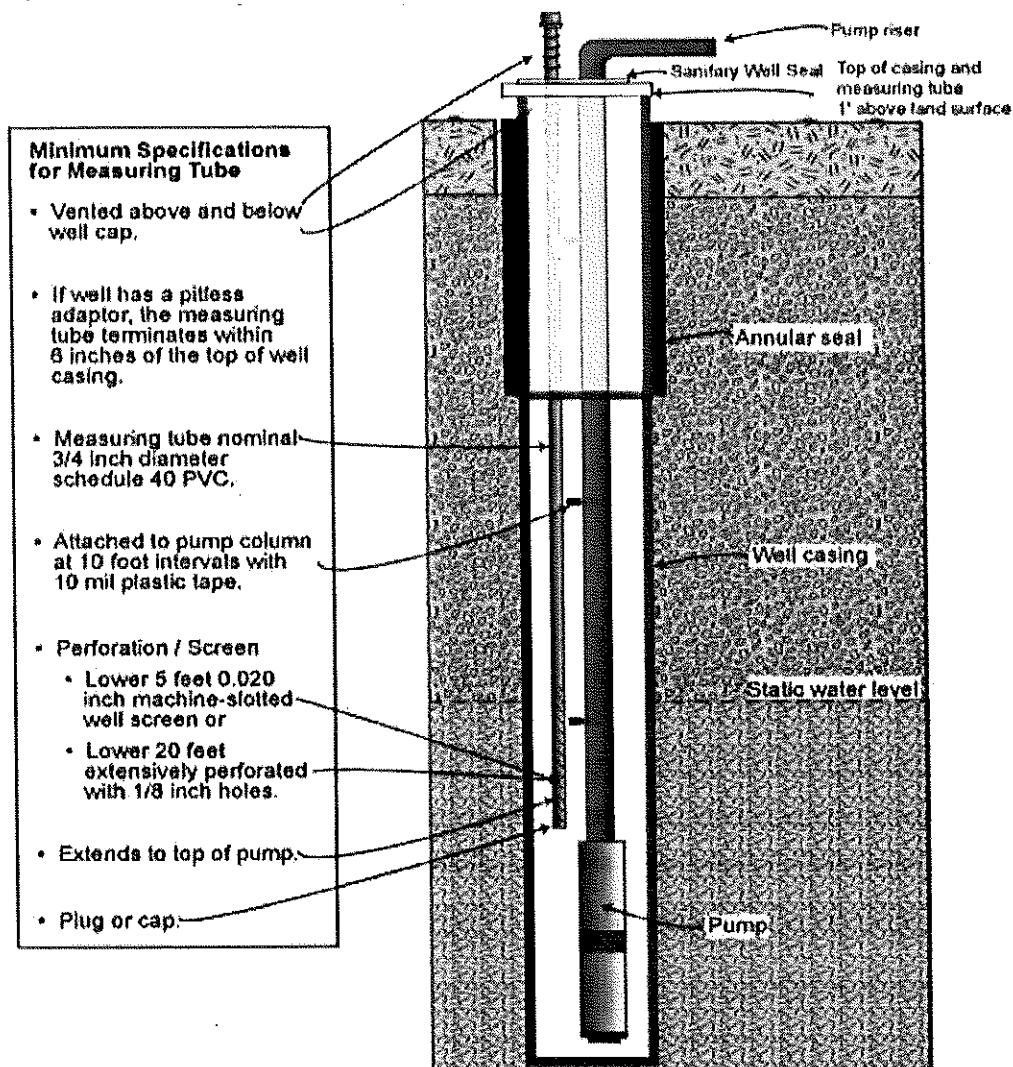

Figure 4 - Measuring Tube on an Oregon Private Well. Source: Oregon Water Resources Department.
- 8) The state of Oregon requires new wells to have an access port for taking water level measurements (Figure 4). Though some might disagree on the need for such a port, we consider this to be a good management practice in many situations. By having a dedicated port on the well cap to allow access for